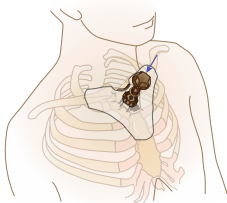

FIGURE 9
a. Insert Needle Set tip into cone at the center of the Sternal Locator with needle at a 90-degree angle to the bone. (See Figures 9 and 10)